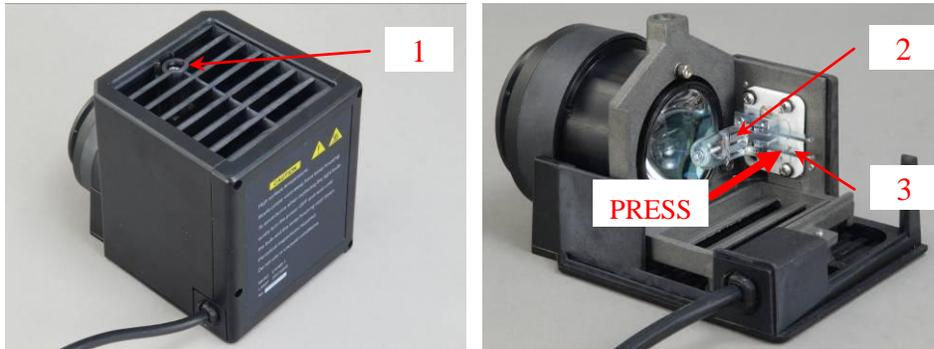

Fig. 10
- 2) Loosen the screw 1 (see Fig.10) with the Allen key provided in the package.
- 4) Press the two levers 3 (see Fig.10) at the same time, and then pull out the halogen bulb 2 (Fig.10).
- 5) Insert new halogen bulb into the socket, and then release the levers 3 (see Fig.10)
- 6) Put back the cover and tighten the screw 1 (see Fig.10).